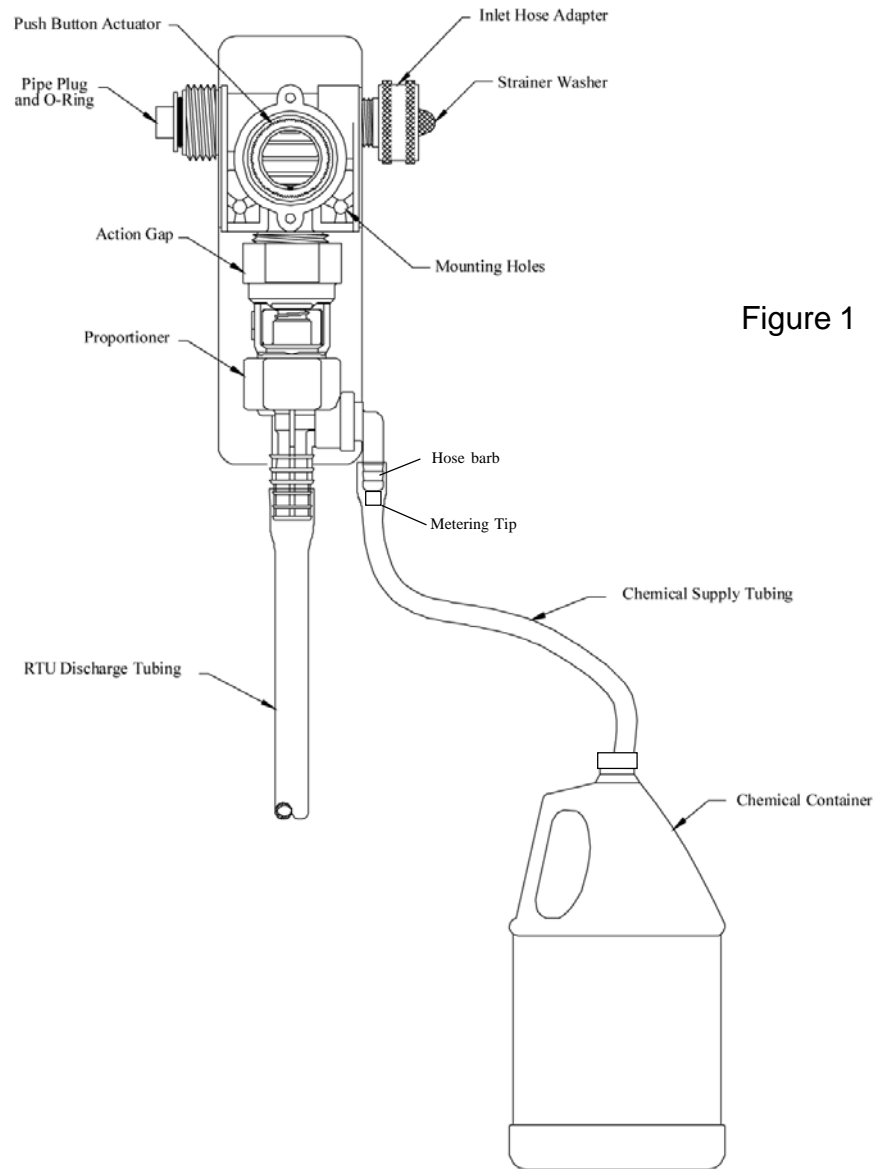

Figure 1
To create a two button station, refer to figure 1. Remove pipe plug and o-ring, attach second single blend button to this connection, tighten. Refer to set up instructions above, items 3-7.